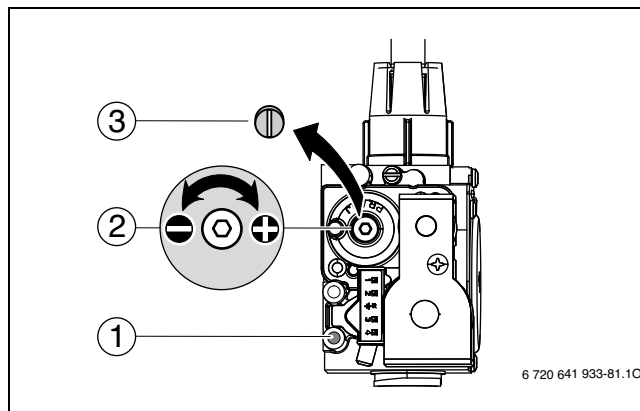
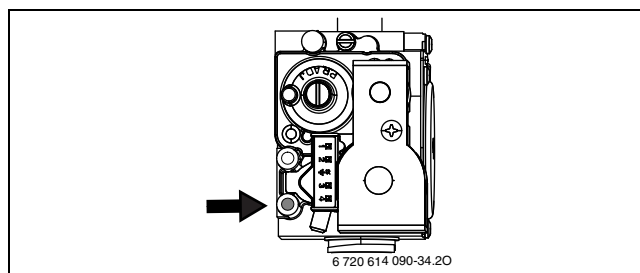

Fig. 78 Set CO₂ or O₂ level for minimum nominal output
Fig. 79 Dynamic gas pressure test port
- Remove the sealed screw (→ Fig. 78, [3]) from gas valve adjustment screw (→Fig. 78, [2]) and set CO₂ or O₂ level for minimum nominal output.
- Reinstall the screw (→Fig. 78, [3]) to cover the gas valve adjustment screw.
- Loosen the screw in the test port for gas inlet pressure (Fig. 78, [1]) and connect a pressure gauge (→ Fig. 79).